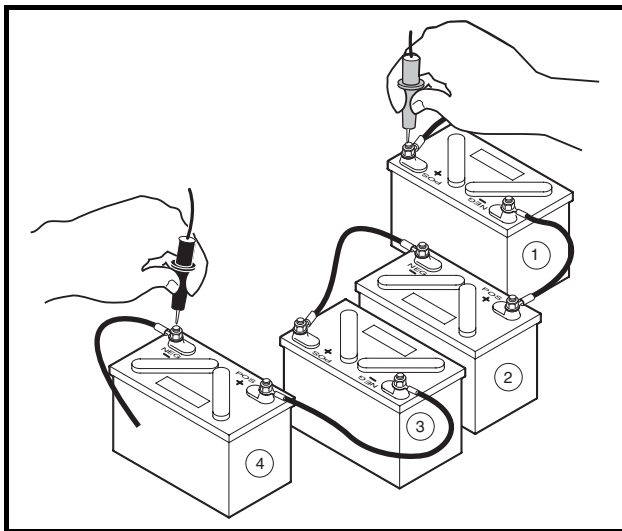

Figure 18-3 Battery Voltage Test
1. With batteries connected and using a multimeter set to 200 volts DC, place red (+) probe on the positive (+) post of battery no. 1 and the black (–) probe on the negative (–) post of battery no. 4 (**Figure 18-3, Page 18-11**). The multimeter should indicate at least 48 volts with the batteries fully charged. If not, check for loose battery connections or a battery installed in reverse polarity. Refer to Section 20 – Batteries: Electric VEHICLES, for further details on battery testing.